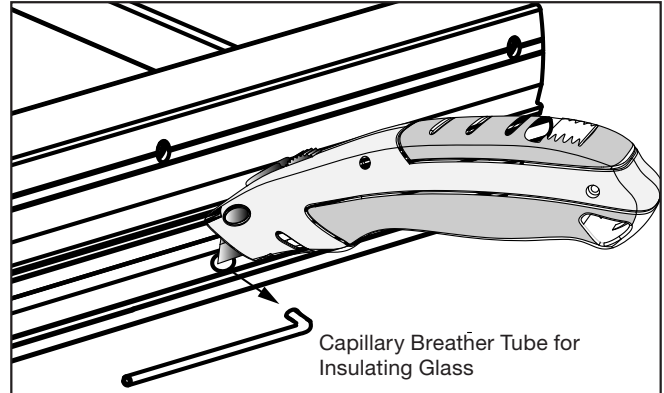

Fig. 13
1. Remove all hardware and shipping pads from box. Use (2) people to remove the door.
3. Prep the capillary vent tube. Figure 13.